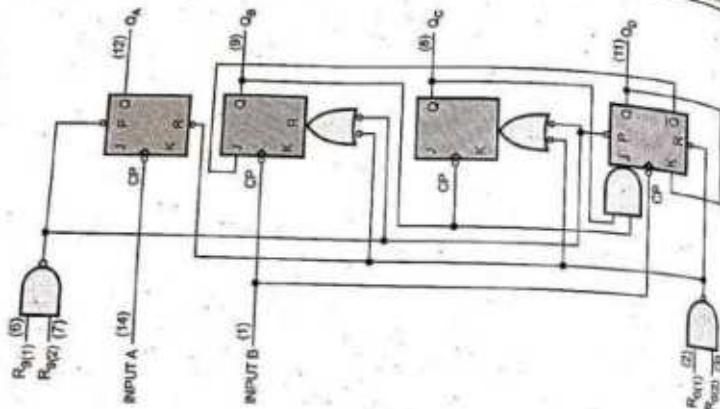

Fig. 5.12.2
- Table 5.12.1 shows function tables and Fig. 5.12.2 shows logic diagram for IC 7490. (See Fig. 5.12.2 on next page)